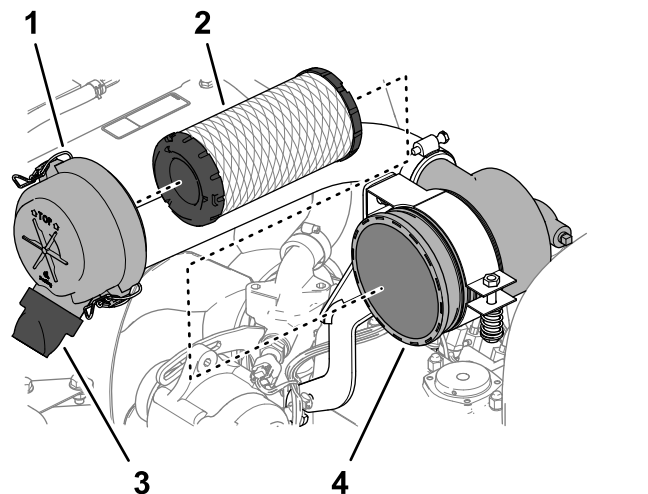

Figure 70
3. Release the latches that secure the air-cleaner cover to the air-cleaner body (Figure 70).
6. Remove the filter element (Figure 70).
7. Remove the rubber outlet valve (Figure 70) from the dirt ejection port of the air-cleaner cover.